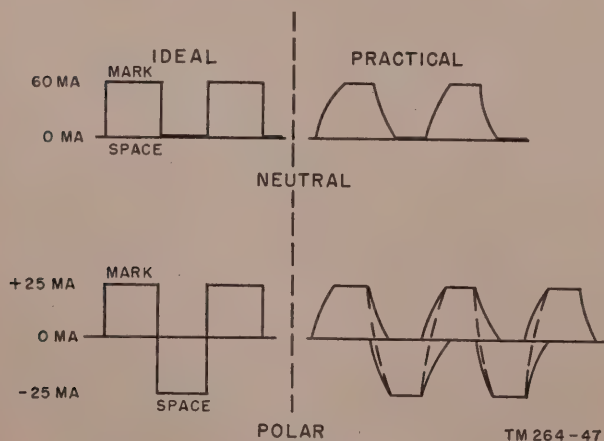

Figure 6. Neutral and polar waveshapes.
a. Methods. Two methods of transmitting TT signals on wire lines are normally used; the *neutral* system and the *polar* system. In the neutral system, use is made of *current on* and *current off* square-wave pulses of one polarity. The polar system uses positive and negative square-wave pulses. Figure 6 shows ideal and practical signal pulses. The transi-
- (1) The code should preferably use only two line conditions, such as current and no current.
- (2) The number of code elements per character should be a minimum in order to permit high-speed operation over relatively narrow-band telegraph circuits. (A greater keying speed is equivalent to more information per unit time; the more information that is transmitted in a given time, the greater the necessary bandwidth.)
- (3) The number of code units per character should preferably be uniform in order to give simple machine design.
d. The mark and space impulses used to operate a teletypewriter are pulses of direct current of uniform intensity (figs. 6 and 7). If oscilloscope test prods were connected across a line carrying these mark and space impulses, they would appear as a square waveform (fig. 6). It is very important that the transmitted impulse maintain its waveform when it reaches